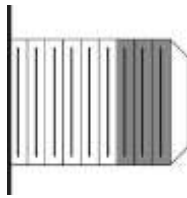
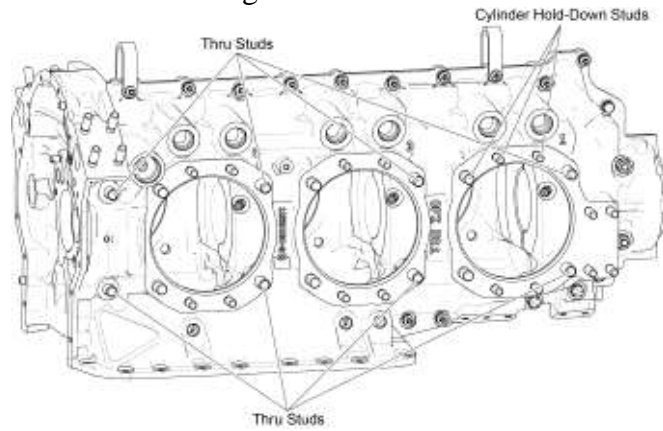

Figure 28
Figure 29
D. Apply one or a combination of any of the following lubricants to the outer three threads (Figure 28) on all of the crankcase thru-studs and cylinder hold-down studs (Figure 29):